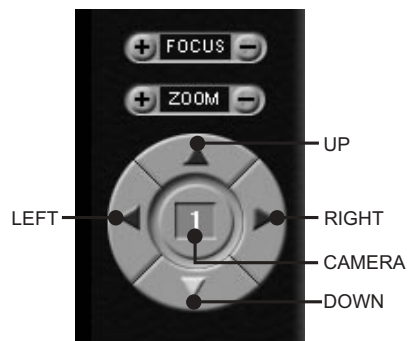

Figure 20. PTZ Controls
- b. A single camera view appears on the screen and the camera number (1 through 16) appears in the center of the pan and tilt control (refer to Figure 20).